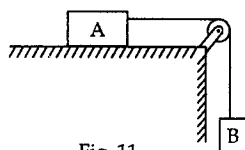

Fig. 11
7. (a) For the system shown in fig.11, find the acceleration of Block B and tension in the rope. Neglect friction of pulley. Mass of Block A and B are 12 kg and 6 kg respectively. The co-efficient of friction between Block A and floor is 0.30. 7+7